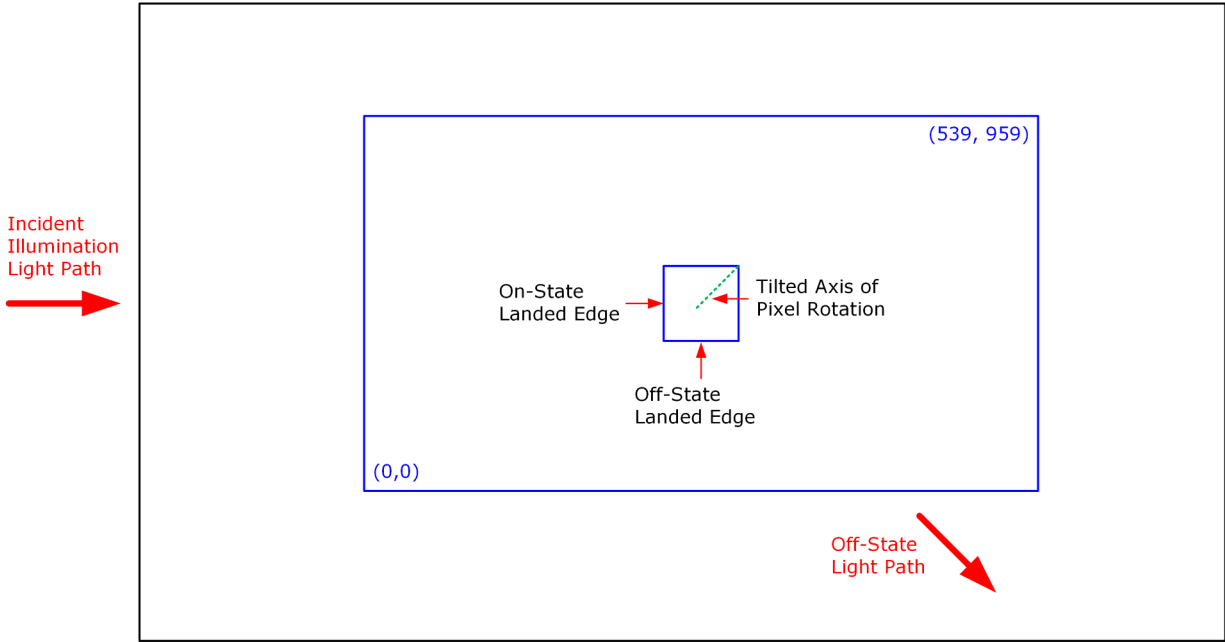

图 6-17. Landed Pixel Orientation and Tilt
- (1) Measured relative to the plane formed by the overall micromirror array.
- (2) Additional variation exists between the micromirror array and the package datums.
- (3) Represents the landed tilt angle variation relative to the nominal landed tilt angle.
- (4) Represents the variation that can occur between any two individual micromirrors, located on the same device or located on different devices.
- (5) For some applications, it is critical to account for the micromirror tilt angle variation in the overall system optical design. With some system optical designs, the micromirror tilt angle variation within a device may result in perceivable non-uniformities in the light field reflected from the micromirror array. With some system optical designs, the micromirror tilt angle variation between devices may result in colorimetry variations, system efficiency variations or system contrast variations.
- (6) When the micromirror array is landed (not parked), the tilt direction of each individual micromirror is dictated by the binary contents of the CMOS memory cell associated with each individual micromirror. A binary value of 1 results in a micromirror landing in the ON state direction. A binary value of 0 results in a micromirror landing in the OFF state direction. See Figure 6-17
- (7) Micromirror tilt direction is measured as in a typical polar coordinate system: Measuring counter-clockwise from a 0° reference which is aligned with the +X Cartesian axis.
- (8) The time required for a micromirror to nominally transition from one landed state to the opposite landed state.
- (9) The minimum time between successive transitions of a micromirror
- (10) Conditions of Acceptance: All DMD image quality returns will be evaluated using the following projected image test conditions: